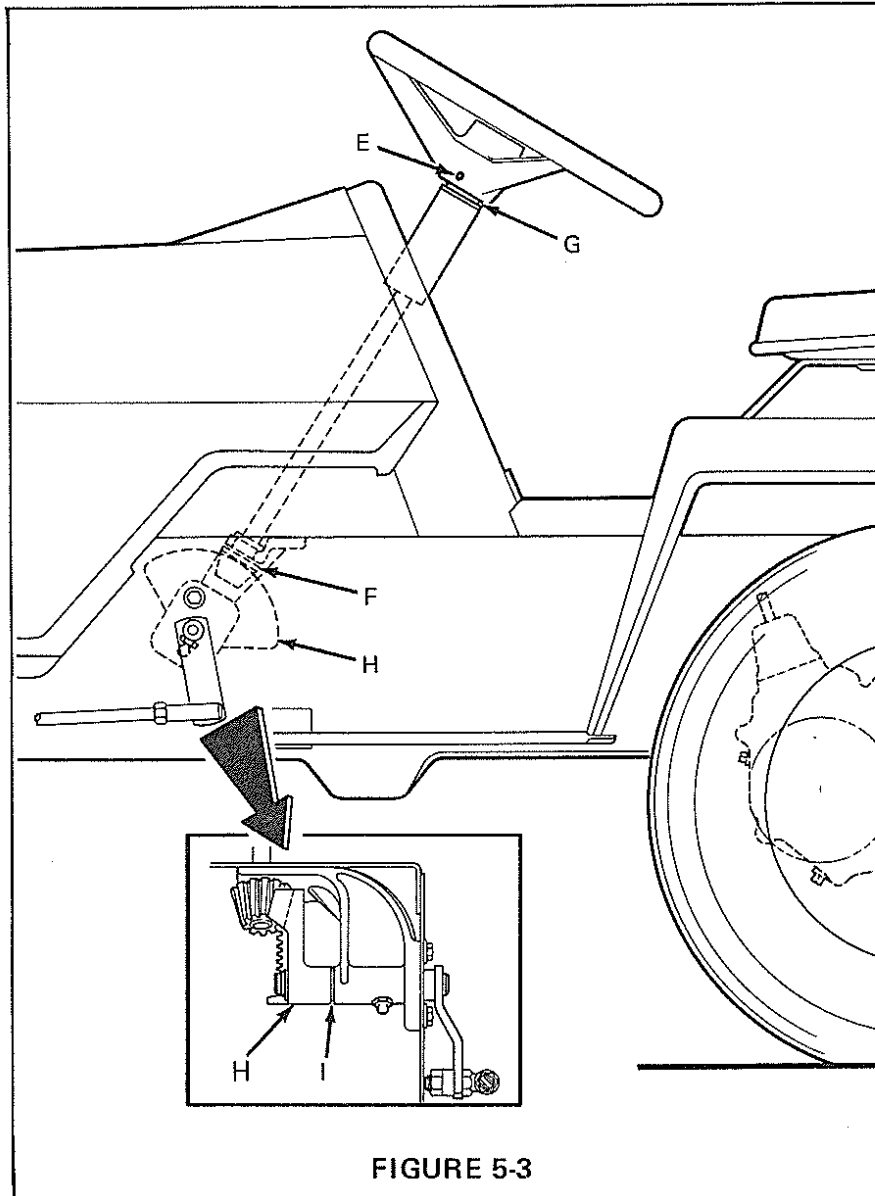

FIGURE 5-3
2. Disassemble the steering wheel by removing roll pin (E), Figure 5-3 and washer.
Point the steering arm pointed to the rear, (See Figures 5-3), slide it through the casting, and reinstall the pin removed earlier and steering gear housing figures 5-3.